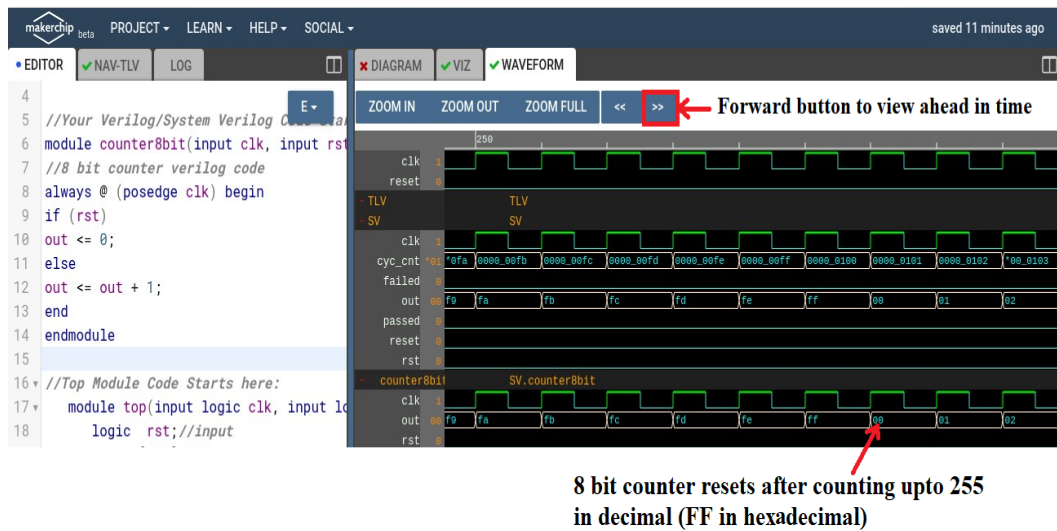

Figure 11.21: 8 bit Counter counting from 0 to 255
17. To view the output waveform forward in time, click on forward button as shown in Fig. 11.21. It can be clearly seen, the 8 bit counter counts from 0 to 255 in decimal (FF in hexadecimal) and it resets after counting up to 255.